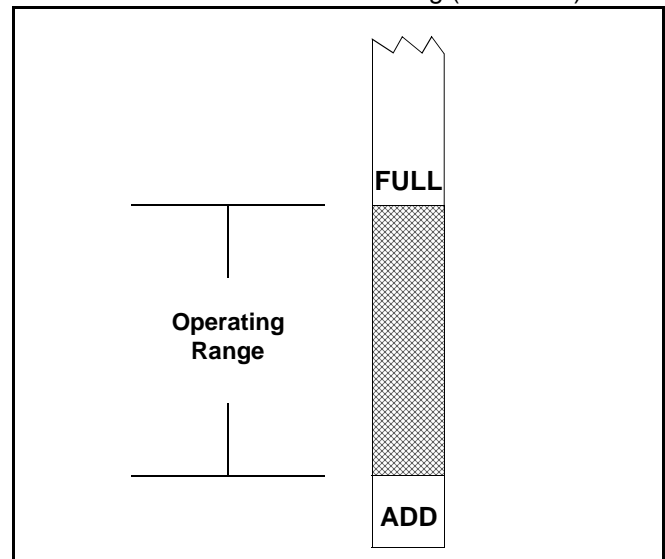

Figure 16
- Wipe the dipstick clean before pushing it back into the oil fill tube. **Do NOT thread the cap back onto the fill tube.** Withdraw the dipstick to check the oil level. Refer to Figure 16.
- Fill the crankcase until the oil level reaches the full (F) mark on the dipstick. Refer to Figure 16. Refer to the viscosity oil chart earlier in this section for information regarding the proper type of oil to add to the crankcase.
- **Slowly** pour oil into the fill tube. Fill the crankcase until the oil level reaches the full (F) mark on the dipstick (Refer to Figure 16).